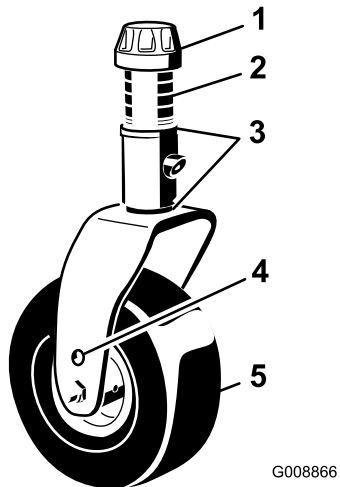
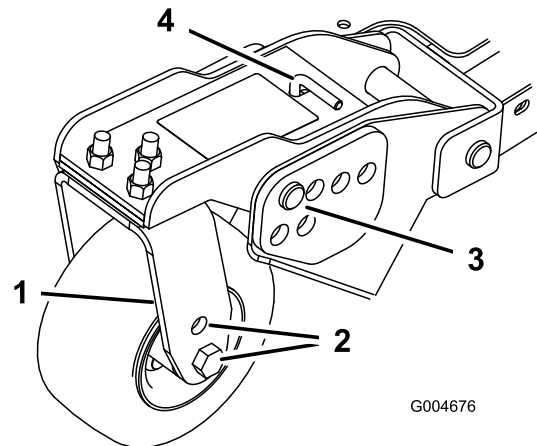
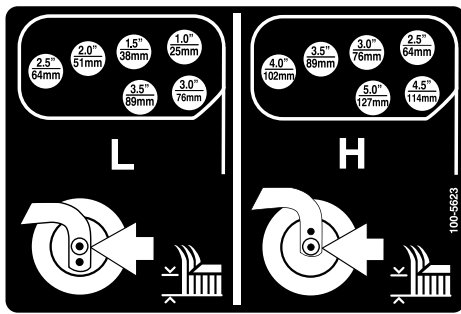

Figure 21
Figure 23
Figure 24
1. Position the caster-wheel axles in the same holes in all of the caster forks (Figure 21 and Figure 23).
2. Remove the tensioning cap from the spindle shaft and slide the spindle out of the caster arm (Figure 21).
6. Remove the hairpin cotter and clevis pins from the caster-pivot arms (Figure 23).
7. Rotate the tension rod to raise or lower the pivot arm until the holes are aligned with the selected height-of-cut bracket holes in the mower-deck frame (Figure 23 and Figure 24).